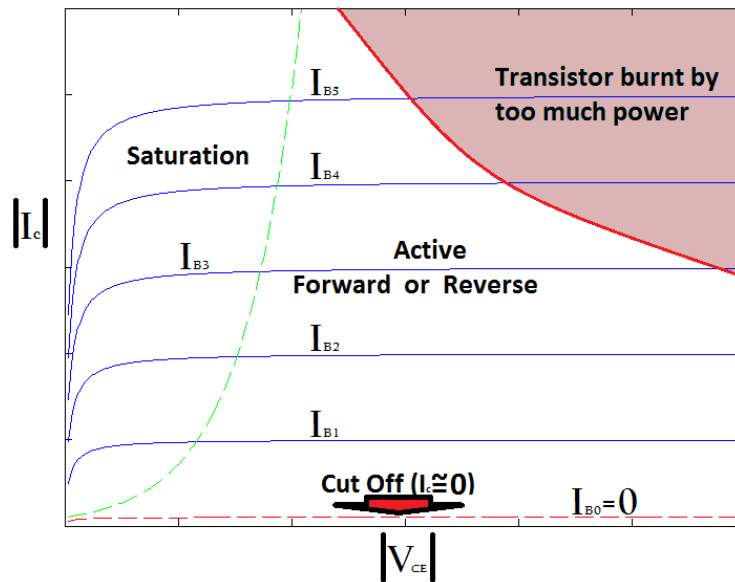

Figure 7.1 Output characteristic of BJT
2. Draw the output characteristic curves as shown in Fig. 7.1 and 7.4 using your results. Evaluate the Q-point behavior of the NPN transistor for each characteristic curve (Note: Q-point is dependent on I_B , I_C and V_{CC}). Identify the midpoint biasing Q-point.